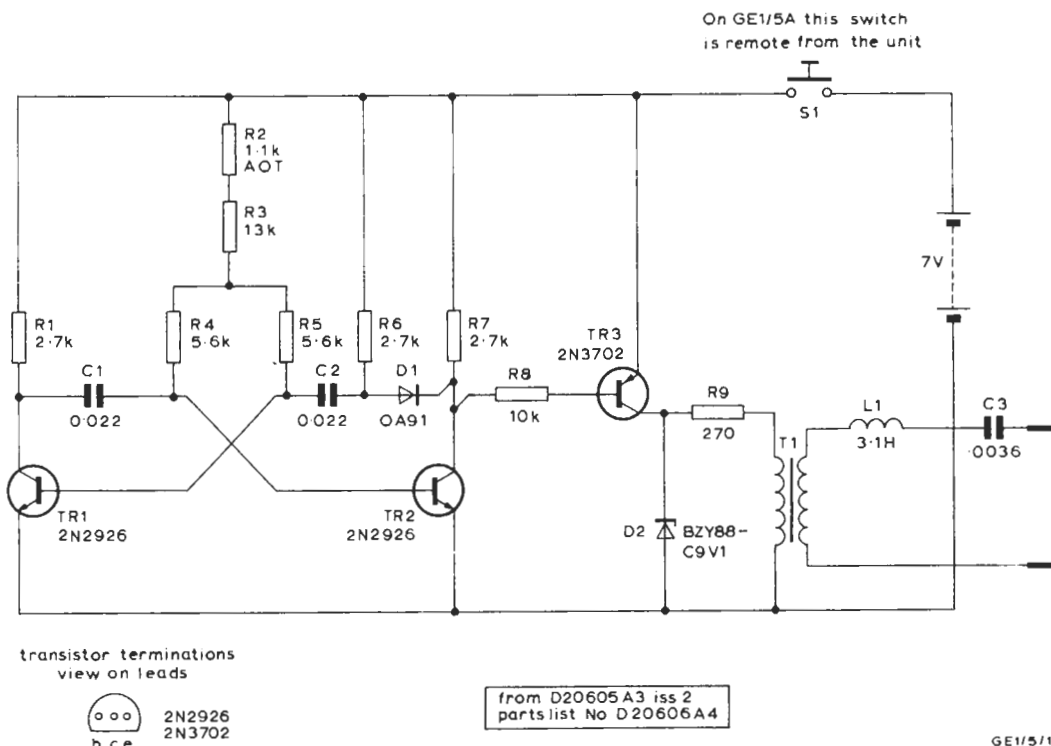

Fig. 1. Circuit of the GE1/5
**Circuit Description (Fig. 1)**
Fig. 1 is a circuit diagram of the GE1/5 and GE1/5A. The generator comprises a conventional astable multivibrator TR1 and TR2. Transistor TR3 is a common-emitter amplifier the collector load of which is an isolating transformer T1. L1 and C3 form a series tuned circuit resonant at 1.5 kHz. The output, into a 300 ohm load, should be a sine wave with the second and third harmonic components at least 30 dB below the fundamental.